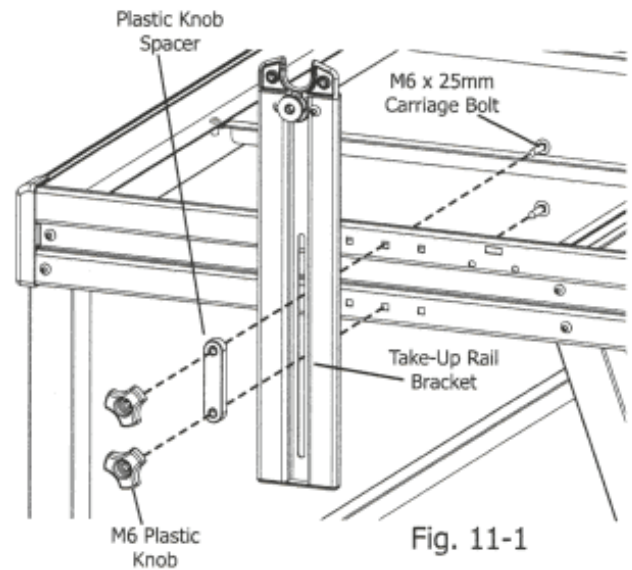

Fig. 11-1
**11-1:** Remove (2) knobs and (2) M6 x 25mm carriage bolts from the Take Up Rail Bracket Left.
**11-2:** Slide (2) M6 x 25mm carriage bolts through the holes in the Left Frame End from the inside of the frame so the bolts go through the center slots, as shown in Fig. 11-1.